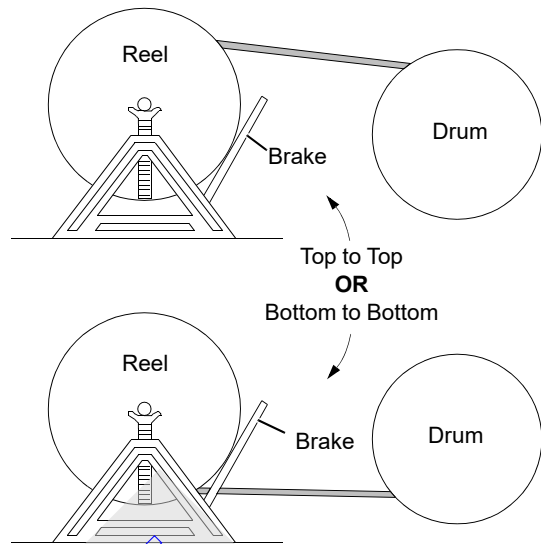

FIGURE 4-40
2. Provide a brake at shipping reel (see Figure 4-40) so wire rope can be wound tightly onto drum.
3. Avoid a reverse bend when winding wire rope onto drum. Wind from top of reel to top of drum or from bottom of reel to bottom of drum as shown in Figure 4-40.